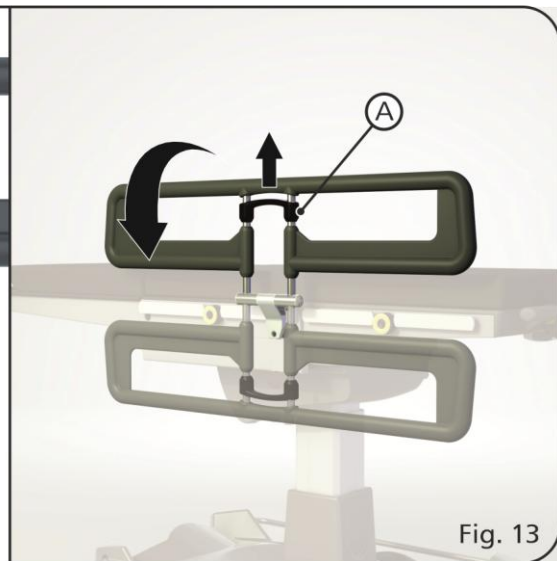

Fig. 13
The siderail can be rotated down whilst still attached to the trolley. With the siderail still secured to the trolley, pull up on the release handle (A) as indicated in fig. 13 and rotate the cotside away from the trolley into the down position.